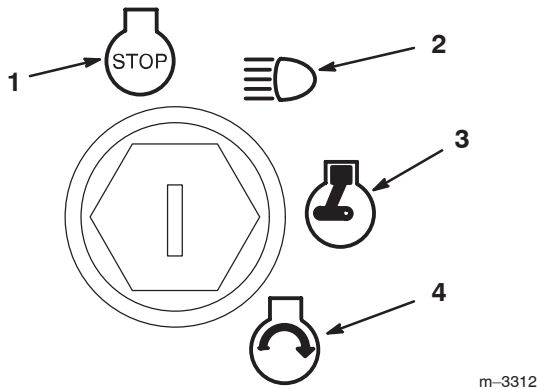

Figure 13
- Turn the ignition key clockwise and hold it in the start position (Fig. 13).
- Turn the ignition key to the stop position (Fig. 13).